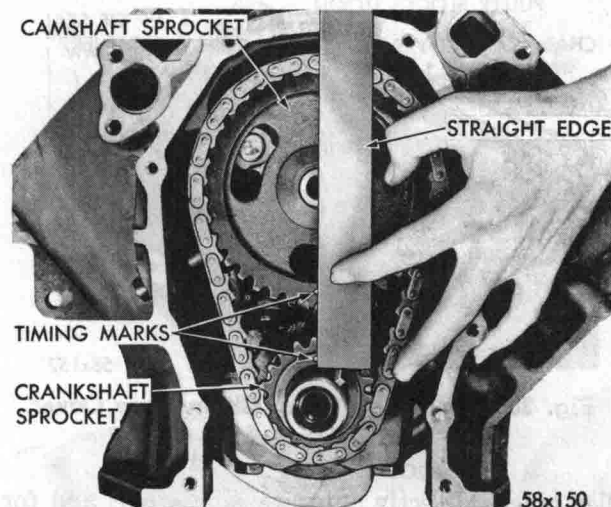

Fig. 29—Checking Alignment of Timing Marks Using a Straightedge
(1) Place a scale next to timing chain so that any movement of the chain may be measured.
(2) Place a torque wrench and socket over the camshaft sprocket attaching bolt and apply torque in the direction of crankshaft rotation to take up the slack; 30 foot-pounds torque (with cylinder head installed) or 15 foot-pounds torque (cylinder heads removed).
(3) Holding a scale with dimensional reading even with edge of a chain link, apply torque in the reverse direction 30 foot-pounds (with cylinder heads installed) or 15 foot-pounds (cylinder heads removed), and note the amount of chain movement, as shown in Figure 29.
(4) Install a new timing chain, if its movement exceeds  $\frac{11}{64}$  inch.
(5) If chain is unsatisfactory, slide the crankshaft oil slinger over shaft and up against the sprocket (flange away from sprocket).